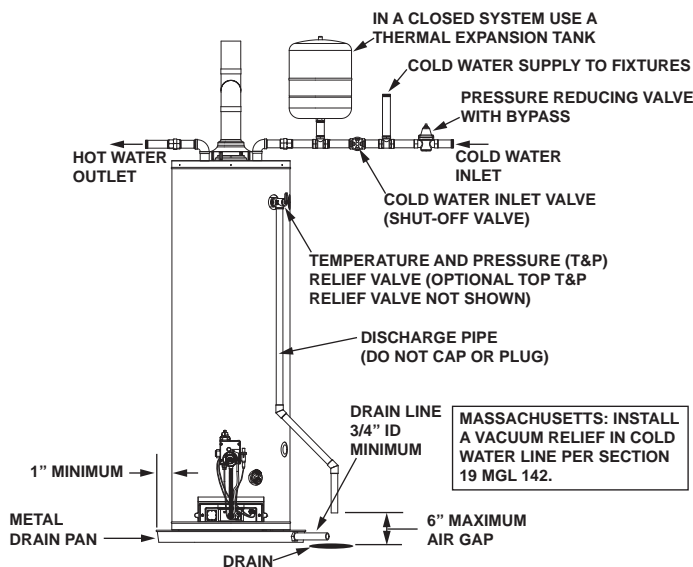

FIGURE 13.
Piping, fittings, and valves should be installed according to the installation drawing (Figure 13). If the indoor installation area is subject to freezing temperatures, the water piping must be protected by insulation.
1. Install the water piping and fittings as shown in Figure 13. Connect the cold water supply (3/4" NPT) to the cold water inlet fitting. Connect the hot water supply (3/4" NPT) to the hot water outlet fitting.